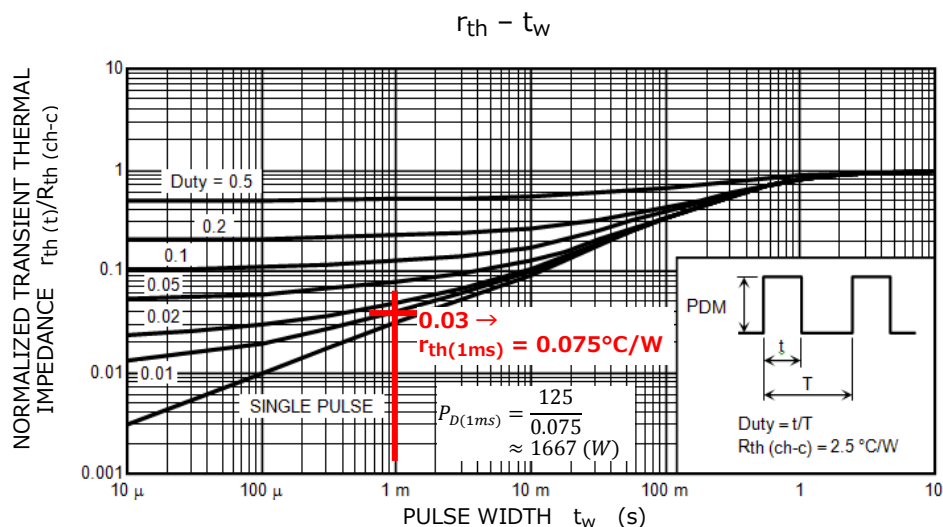

Figure 3.3 Transient thermal impedance curves
The power dissipation at $t_w = 1$ ms, $P_D(1 \text{ ms})$, is calculated to be roughly 1667 W from the transient thermal impedance curves shown in Figure 3.3. The points through which the derating lines for the thermal limitation at $T_c = 100^\circ\text{C}$ (④' to ⑤') and the secondary breakdown limitation (⑤' to ⑥') pass can be calculated in the same manner as for the $T_c = 25^\circ\text{C}$ (DC operation) line.